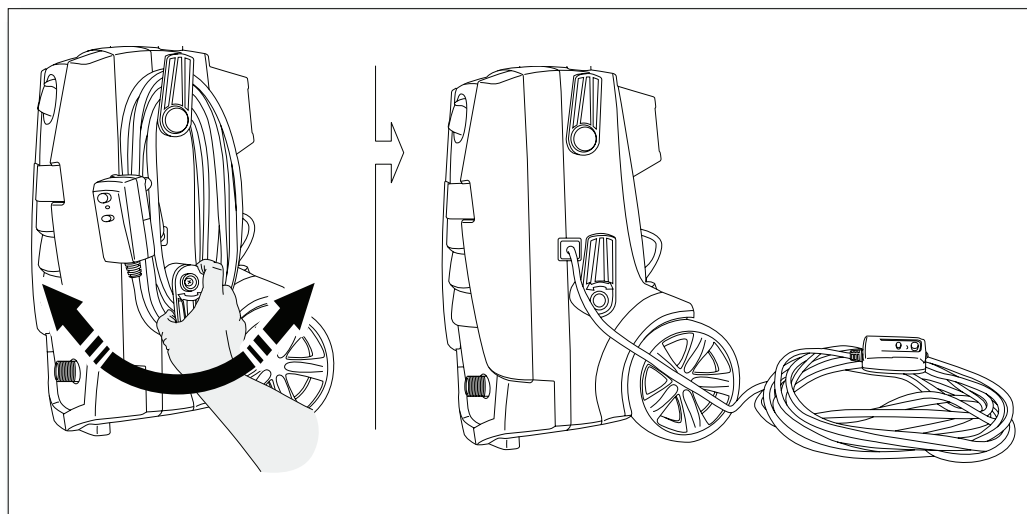

Fig. 3
- Easily remove the power cord from side of unit by swiveling the bottom cord hook to the right or left until it faces up. The power cord then can be easily slid off of the side of the power washer unit. (Fig. 3)